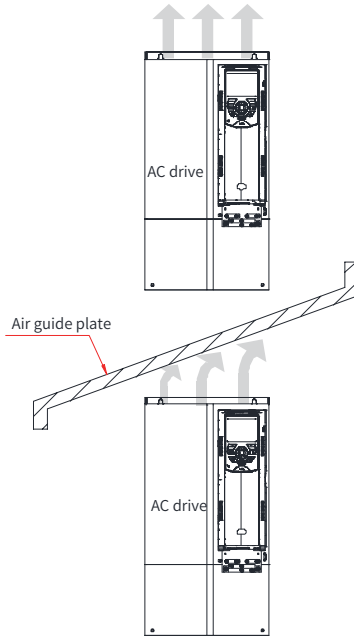

Figure 2-6 Installing AC drives (structures T2 to T9) above one another
- ◆ Install the AC drive vertically upward to facilitate heat dissipation. If multiple AC drives are installed in the cabinet, install them side by side. If AC drives are installed above one another, install an air guide plate, as shown in Figure 2-6.